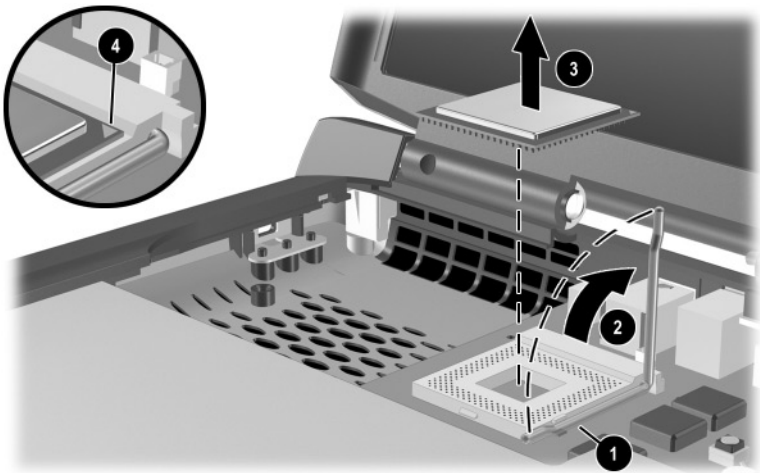

Figure 5-19. Removing the Processor
5. Slide the front end of the processor release bar slightly to the right ❶ (Figure 5-19).
6. Swing the bar up and to the back ❷.
7. Lift the processor straight up ❸ to remove it.